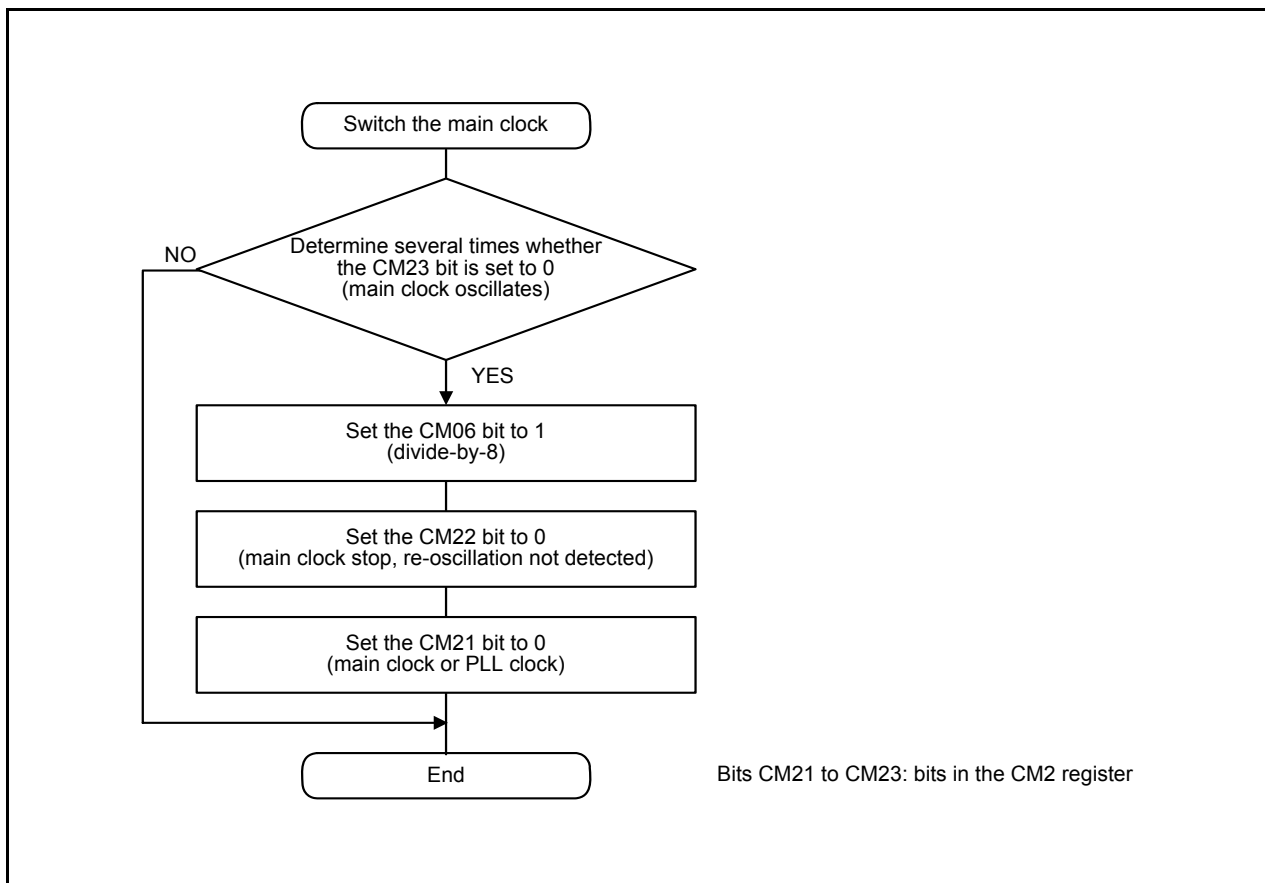

Figure 10.13 Procedure to Switch Clock Source From 125 kHz On-chip Oscillator to Main Clock
- When the main clock re-oscillated after oscillation stop, the clock source for the CPU clock and peripheral functions must be switched to the main clock in a program. Figure 10.13 shows the Procedure to Switch Clock Source from 125 kHz On-chip Oscillator to Main Clock.